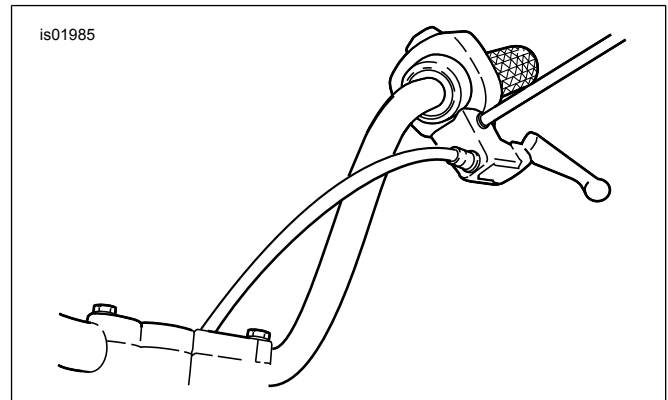

Figure 1. New Clutch Cable Routing
- d. See Figure 1. Reroute clutch cable to the inside of the handlebars and reconnect clutch cable to clutch lever.